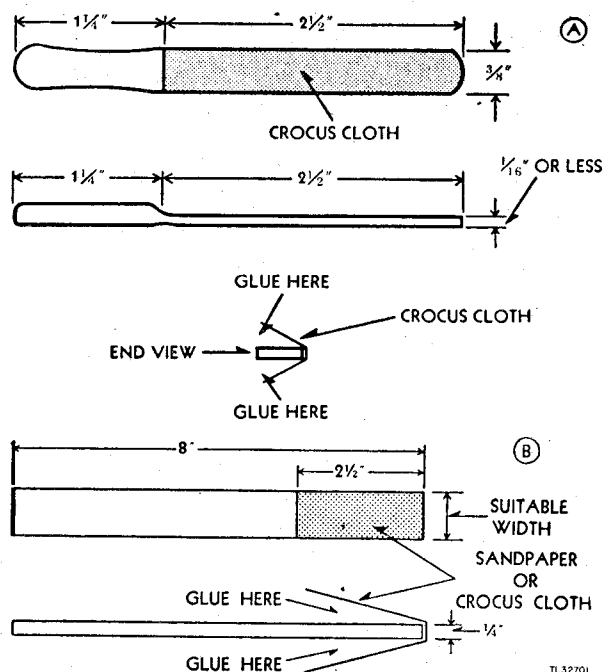

Figure 31. Relay and commutator tools, method of construction.
b. Cement the small piece of crocus cloth to the small stick, as shown in figure 31 (A). Note that both sides of the stick are covered. Place the stick in the vise until the cement hardens. The pieces of crocus cloth which extend over the edge of the stick may be cut off with a knife. The finished product is shown in figure 31 (A).
c. The long, narrow pieces of crocus cloth, sandpaper, and canvas are cemented to the three long sticks, as shown in figure 31 (B). Note that in this case, the fold is over one end of the stick rather than over the side. Again the vise should be used to hold the cover material flat on the stick until the cement has hardened. This finished product is shown in figure 31 (B).